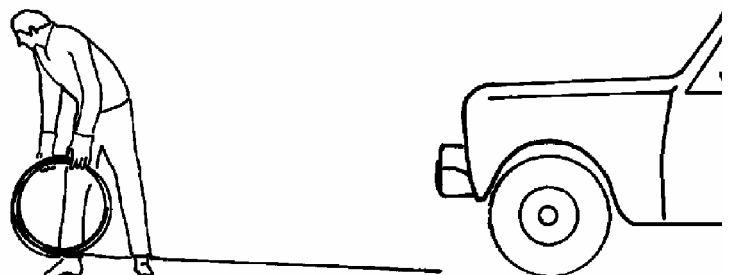

Fig. 5
1. Unwind the cable by rolling it out along the ground with the tapered end nearest to the winch. **Never** wind the cable straight onto the drum from a coil (Fig. 5).